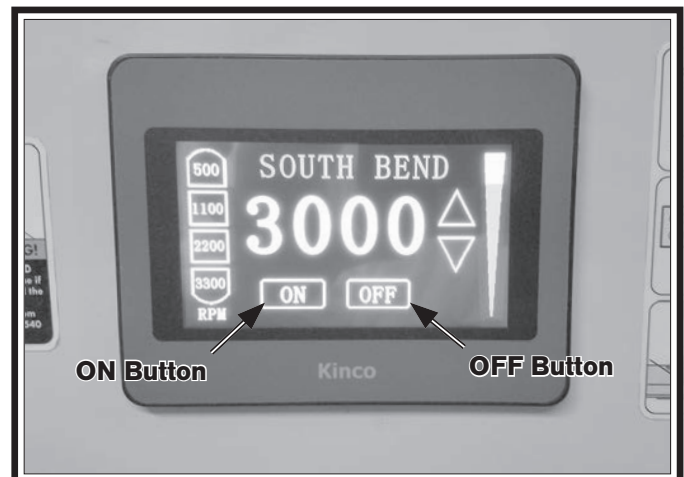

Figure 33. Touch screen power controls.
8. Use ON and OFF buttons on touch screen digital readout (see **Figure 33**) to start and immediately stop machine, while watching how belt tracks on drums. Belt "tracking" refers to belt positioning on drums when belt rotates. When tracking properly, belt remains centered on drums as they rotate.